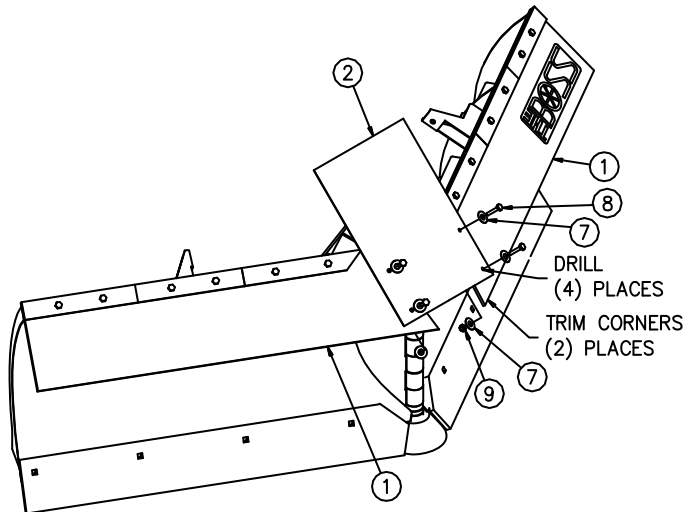

Figure 6. Center Flap Installation G10022
Installation Note: If installing snow deflector on a plow that does not have pre-punched holes in the blade skin, it is required that the blade skin be drilled along with the rubber. Use the metal straps as reference when drilling the holes. Refer to Figure 6 for the correct strap orientation. Space between straps will differ depending on size of blade.
- 4) Place Metal Straps (3) and Metal Straps with 45 (4) on top of the Rubber Belting (1). The Metal Straps with 45 (4) should be placed closet to the center of the blade as shown in Figure 6.
Note: The plow must be in the V Position as shown in Figure 6 for the installation of Center Belting (2).
- 6) Align and clamp Center Belting (2) as follows:
- Center the Center Belting (2) to allow an equal amount of overlap on each half of Rubber Belting (1).
- Position Center Belting (2) so that the 16-inch width is horizontal and the 21-1/2 inch length is vertical. This is illustrated in Figure 6.
- Position the front corners of Center Belting (2) up approximately 1-1/2" from the front edge of Rubber Belting (1).
- 7) With Center Belting (2) clamped in place, drill two 3/8" diameter holes through each side of Center Belting (2) as shown in Figure 6. The holes should be placed at least 1-1/2 inches away from the edges of the pieces of belting.
- 8) Attach Center Belting (2) to Rubber Belting (1) using four 1/4" Bolts (6), eight 5/16" Fender Washers (5), and four 1/4" Lock Nuts (7).
- 9) Trim the corners of Rubber Belting (1) to be flush with the bottom of Center Belting (2). Reference Figure 6 above.